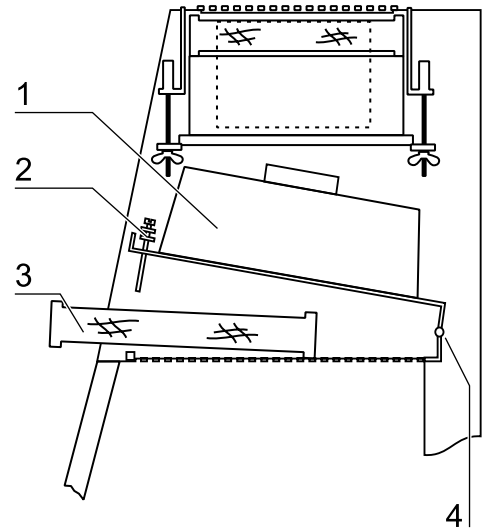

Fig. 22
**Fig. 22:** The downflow filter [3] is located below the downflow blower plenum. The plenum has a hinge [4] at its back and can be swivel upward with the blower after the exhaust plenum has been removed (see Section 9.4)